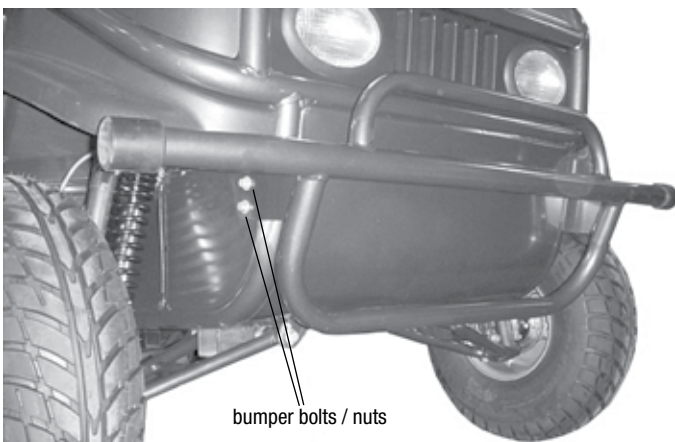

Fig. 1
- 1 Bumper Removal - if necessary** (figure 1)
- Remove the (4) nuts / bolts used to attach the bumper.
- Save the (4) bolts and nuts for re-use on the new winch bumper.